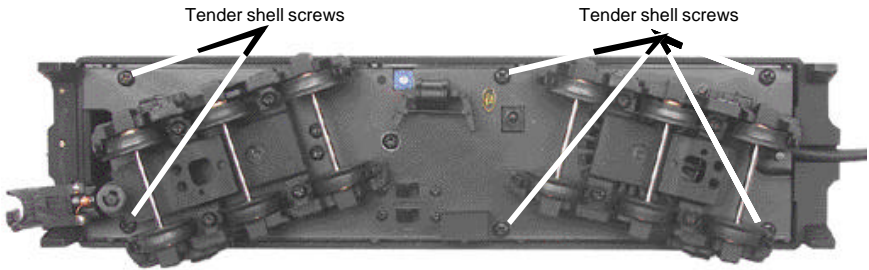

Figure 10: Removing The Tender Body
1. Remove the body from the chassis by removing the 4 screws shown in Fig. 10.